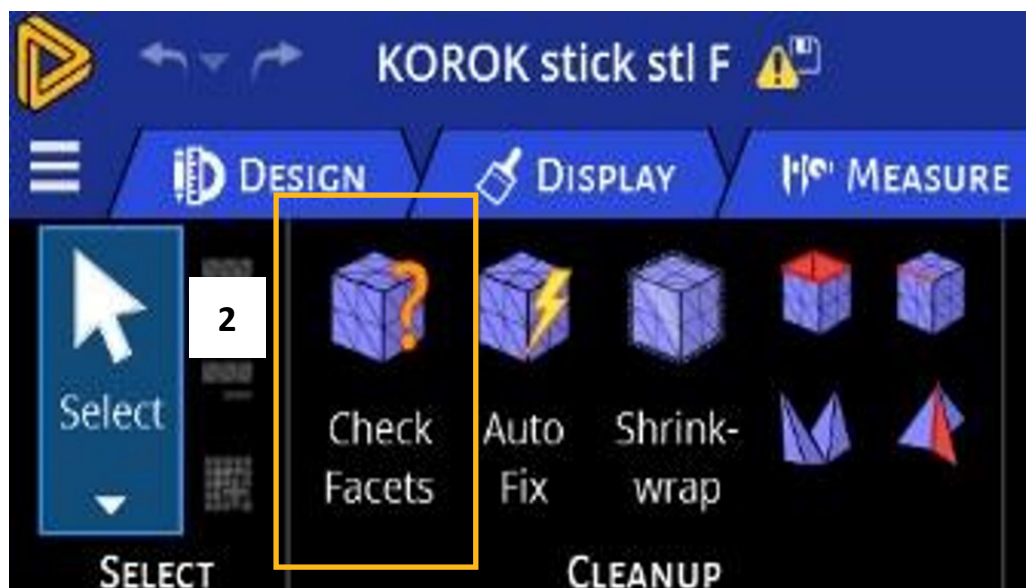

Figure 6: (2) Tool used to check for errors (Check Facets)
2. Select “Check Facets” tool (Fig. 6) to check for any errors in the scan data (2), listing any problems with the faceted body.